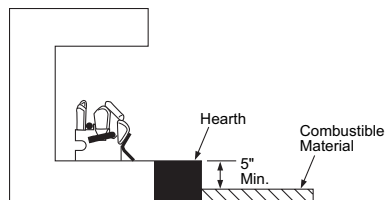

Figure 9 - Minimum Fireplace Clearances Above Combustible Flooring
- If combustible materials are less than 14" to the fireplace, you must install appliance at least 5" above the combustible flooring (see Figure 9, page 11).